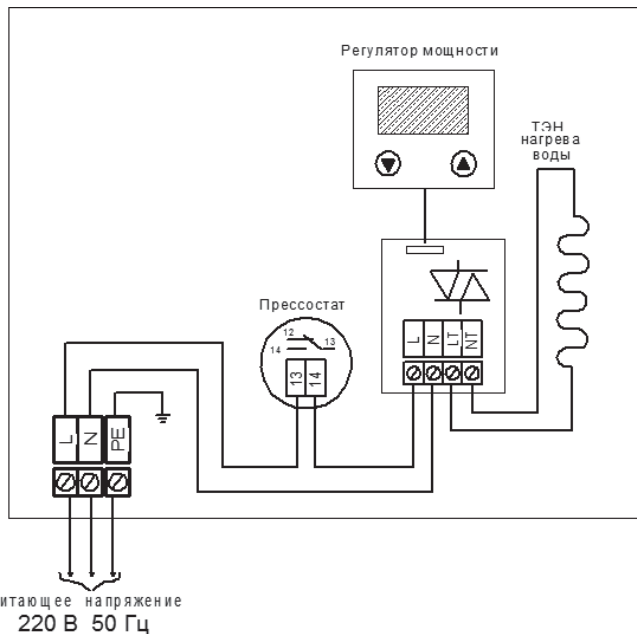

Figure: 3. Wiring diagram of the steamer connection
1.4.5 Wiring diagram for connecting the steamer in fig. 3.
- Remove the front panel of the base; pass the electrical cable for connection through the cable entry on the rear side of the Product through the technical gap in the casing between the tank and the outer wall. Connect the Product to the electrical power system in accordance with this Operation Manual and the electrical diagram (Fig. 3). Install the decorative front panel of the base.